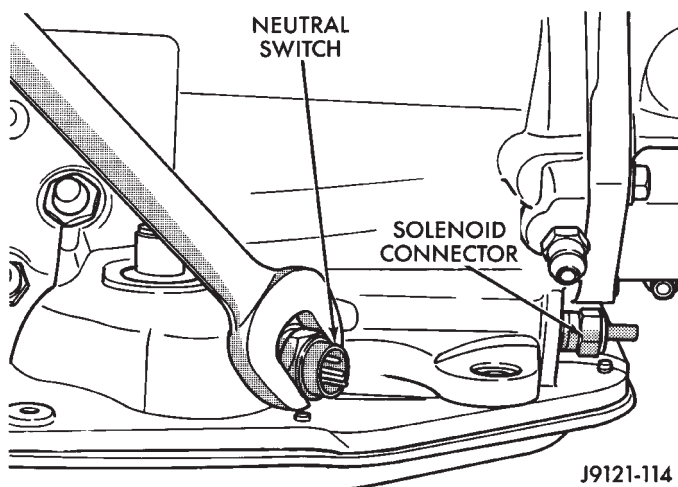

Fig. 9 Park/Neutral Position Switch Removal/Installation
- (14) Remove park/neutral position switch (Fig. 9).